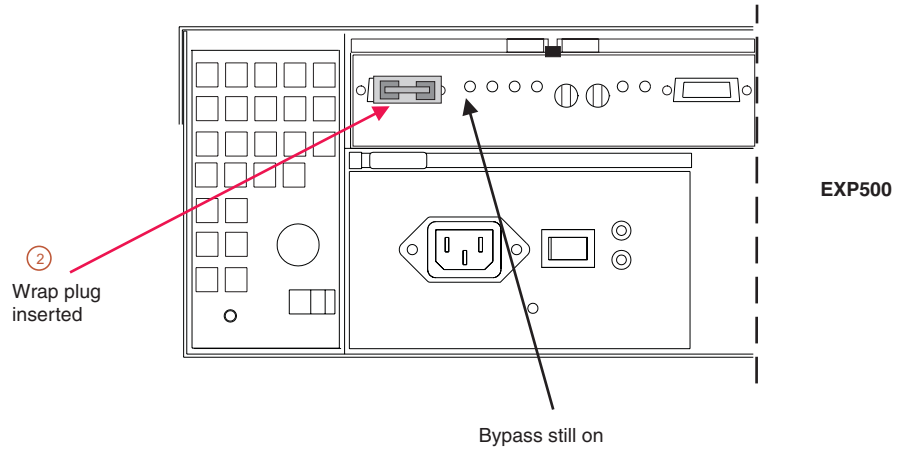

Figure 86. Insert wrap plug
2. Insert a wrap plug in the element from which you disconnected the cable. See Figure 86 on page 198.